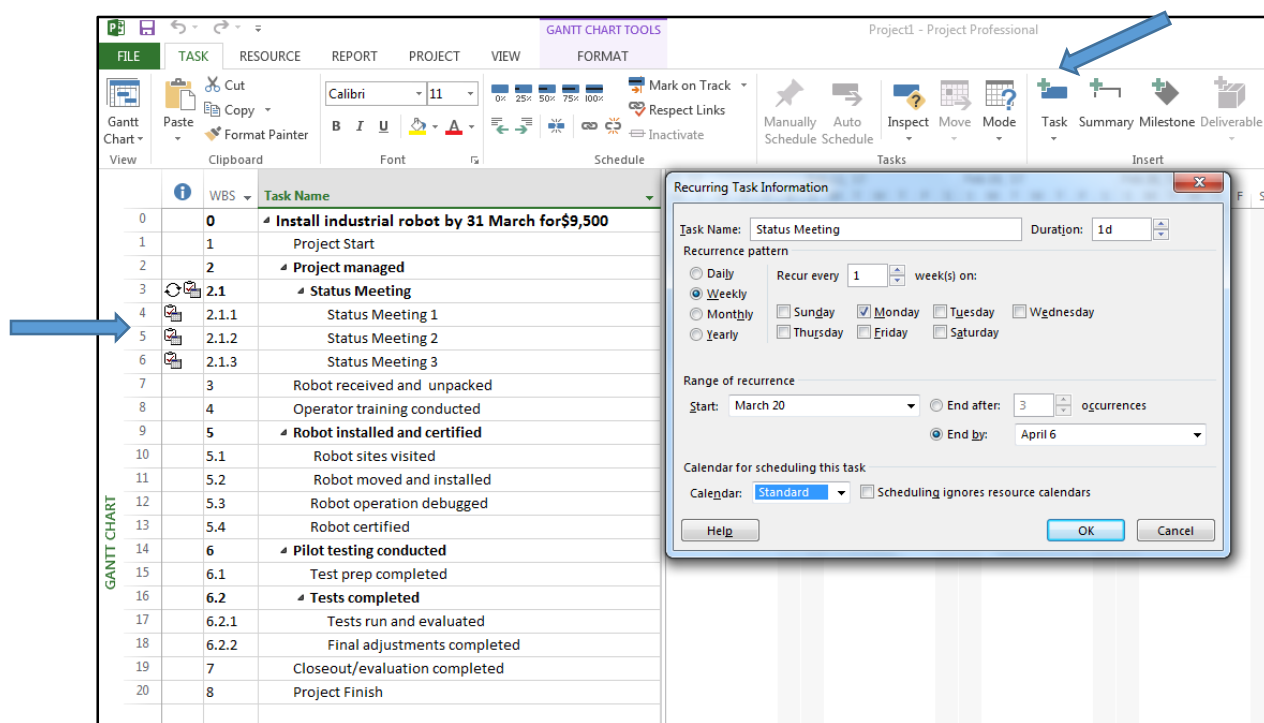

Figure 5
- To create a recurring task, such as a status meeting, first click on the task where you want the recurring tasks inserted (the recurring tasks will be inserted above). Then on the Task tab (Insert section), click Task and select Recurring Task. In the dialog box, key in the name of the task. The Duration will automatically set the value to 1 day (1d). You can change this to hours to represent how long the meeting will be, e.g., 2h for a two-hour meeting. Then set the recurrence pattern (weekly, monthly, etc.) and the range of the recurrence (start, end after, and end by). Project will automatically set the start date to the project's start date. Then click OK. (Figure 5)